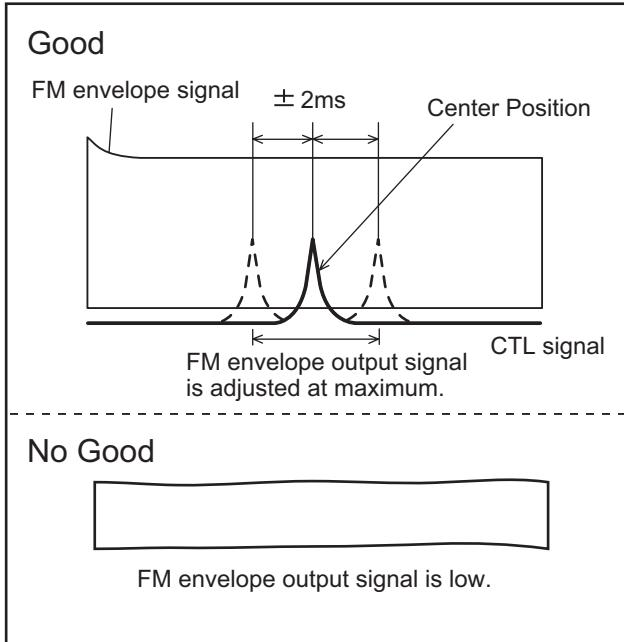
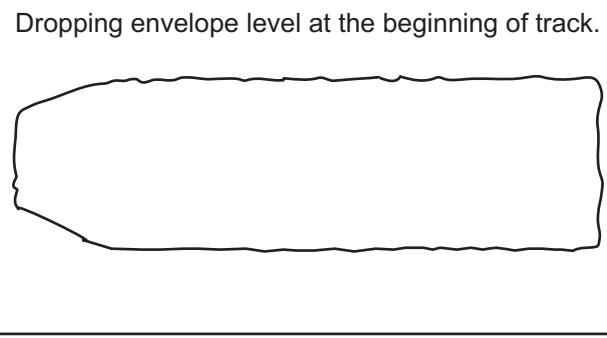
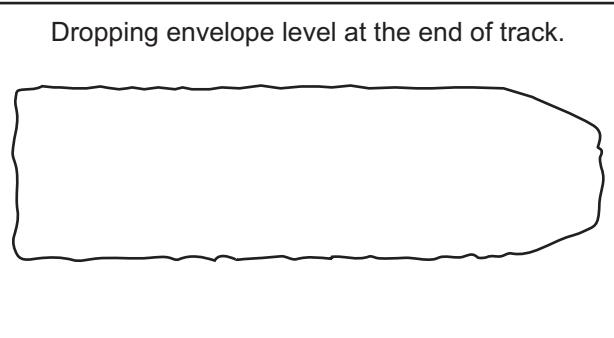

Fig.7
Fig.8
Fig.9
- (3) If the envelope is as shown in Fig. 7, adjust the height of Guide Roller [2] (Refer to Fig. 3) so that the waveform looks like the one shown in Fig. 9.
- (4) If the envelope is as shown in Fig. 8, adjust the height of Guide Roller [3] (Refer to Fig. 3) so that the waveform looks like the one shown in Fig. 9.
- (5) When Guide Rollers [2] and [3] (Refer to Fig. 3)are aligned properly, there is no envelope drop either at the beginning or end of track as shown in Fig. 9.